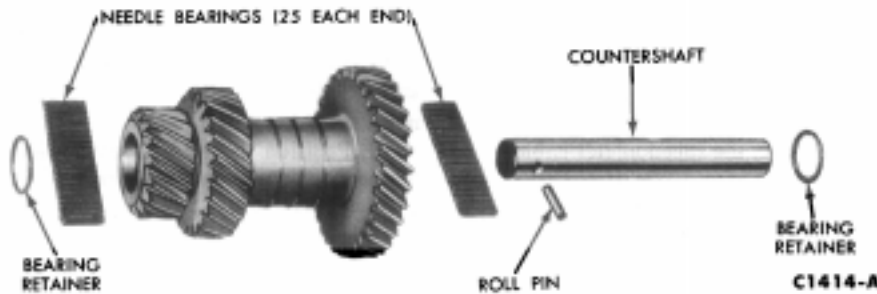

FIG. 14—Countershaft Gear Disassembled
The countershaft (cluster) gear and thrust washers (Fig. 14) can be lowered to the bottom of the case. Remove the countershaft from the rear of the case.
1. Remove the dummy shaft, 50 roller bearings, and the two bearing retainer washers from the countershaft gear (Fig. 14).